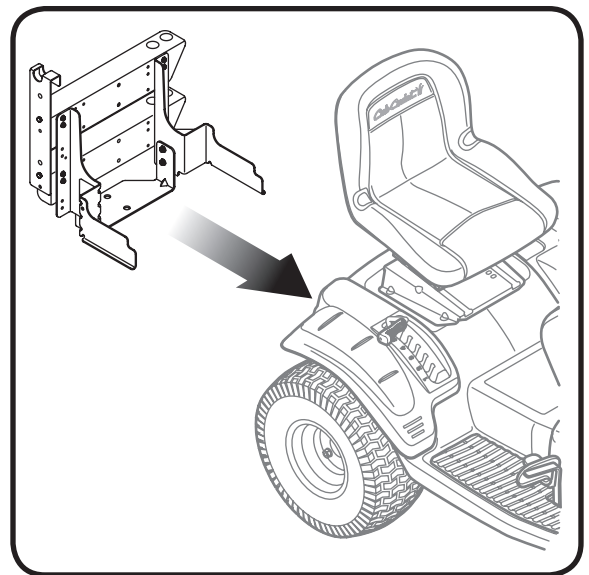

Figure 3-2
3. Position the bracket assembly to the outside of the hitch plate. See Figure 3-2.